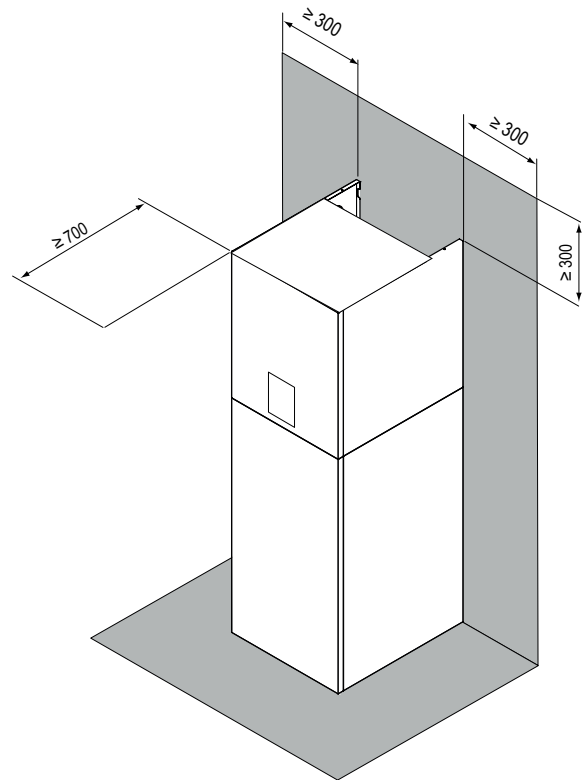

fig. 6 - minimum operating area for indoor unit
- The space around the unit is adequate for serving, see fig. 6.